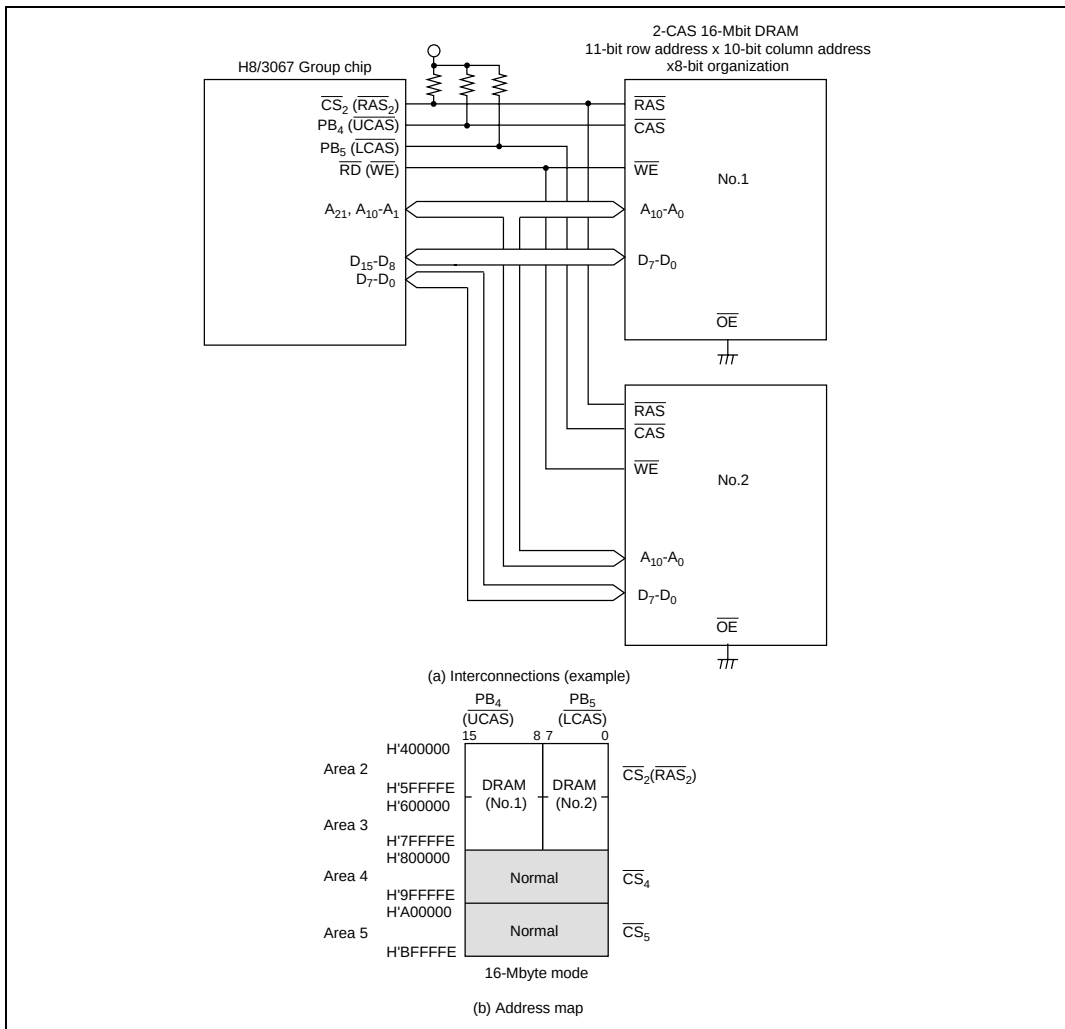

Figure 6.32 Interconnections and Address Map for 16-Mbit DRAMs with $\times 8$ -Bit Organization
- Figure 6.32 shows typical interconnections when using two 16-Mbit DRAMs using a $\times 8$ -bit organization, and the corresponding address map. The DRAMs used in this example are of the 11-bit row address $\times$ 10-bit column address type. The $\overline{CS}_2$ pin is used as the common $\overline{RAS}$ output pin for areas 2 and 3. When the DRAM address space spans a number of contiguous areas, as in this example, the appropriate setting of bits DRAS2 to DRAS0 enables a single $\overline{CS}$ pin to be used as the common $\overline{RAS}$ output pin for a number of areas, and makes it possible to directly connect large-capacity DRAM with address space that spans a maximum of four areas. Any unused $\overline{CS}$ pins (in this example, the $\overline{CS}_3$ pin) can be used as input/output ports.